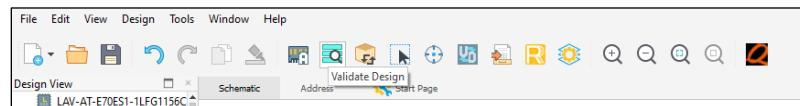

Figure 9.4. Validate Design again is any IP is updated
5. Click the **Validate** button as shown in Figure 9.4. Ensure that there are no errors.